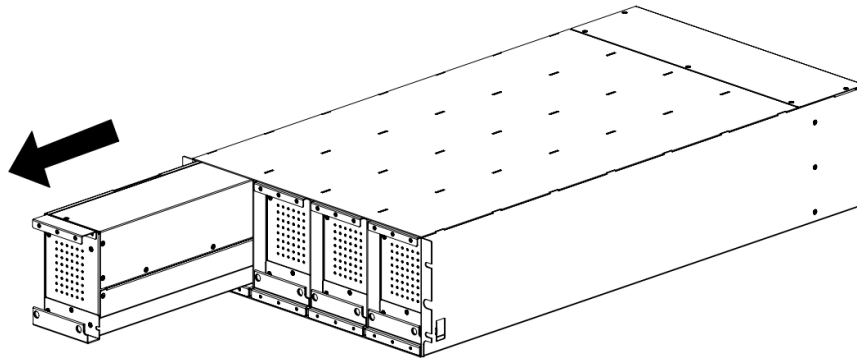

Figure 74: Remove Battery Cartridges from EBP
4. Refer to the handling instruction, remove all battery cartridges (see Figure 74).